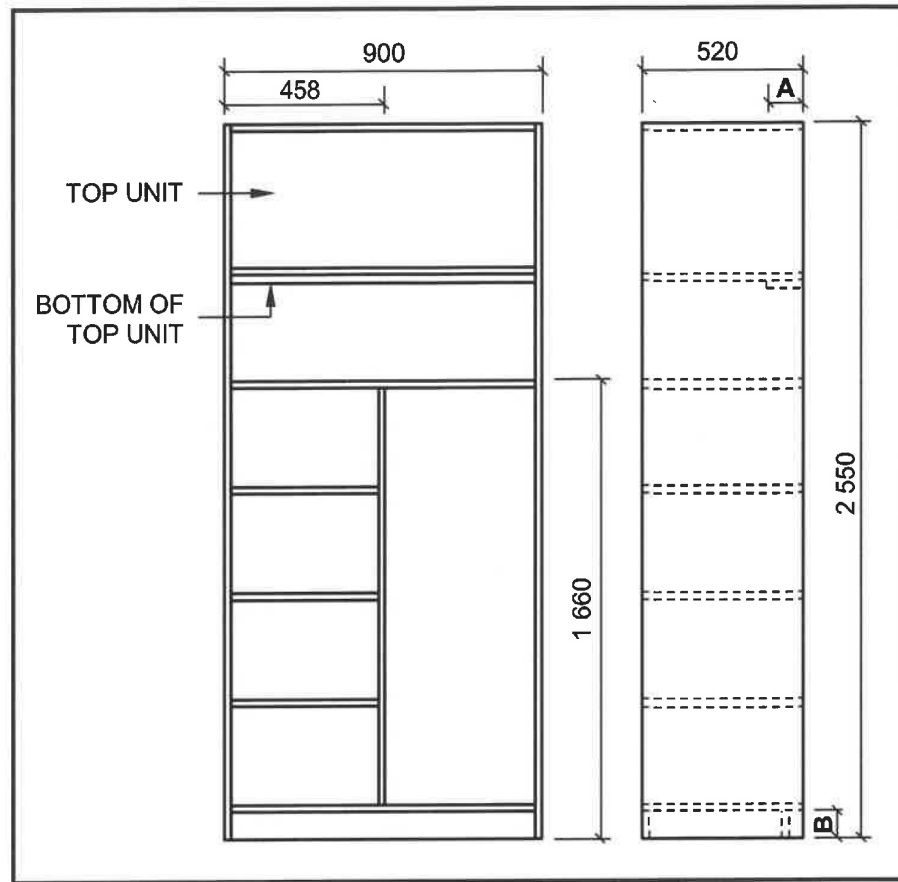

FIGURE 3.2
- 3.2 FIGURE 3.2 below shows the front and side elevation of a bedroom cupboard, without doors and a back board, fitted from the floor to the ceiling.